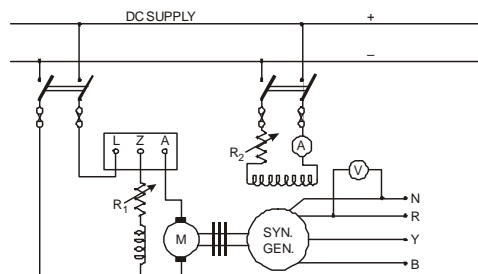

Fig. P8.1: Circuit diagram to observe the effect of field excitation on no load terminal voltage
1. Make the connections as per circuit diagram shown in fig.P8.1.